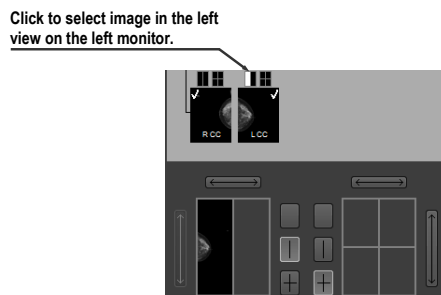

Figure 458 – Selecting an image to view using the rectangle indicator
- Or, click the desired rectangle in the screen position indicator representing the view in the working area (see Figure 458). The image is displayed in the appropriate view in the mammography workspace on the left or right monitor.